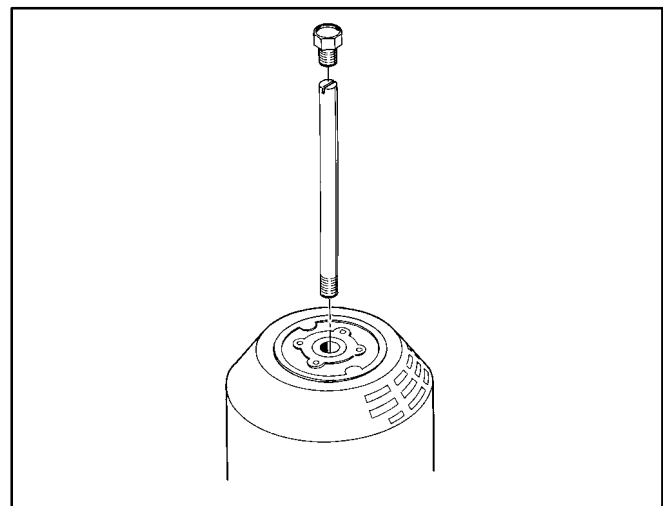

FIGURE 49. ROTOR REMOVAL TOOL
10. Remove the eyebolt and insert the rotor removal rod (headless bolt, Figure 49) and thread it in with a screwdriver until it bottoms. Thread in and tighten a 9/16-12x1-3/4 bolt against the rod until the rotor breaks loose from the crankshaft.